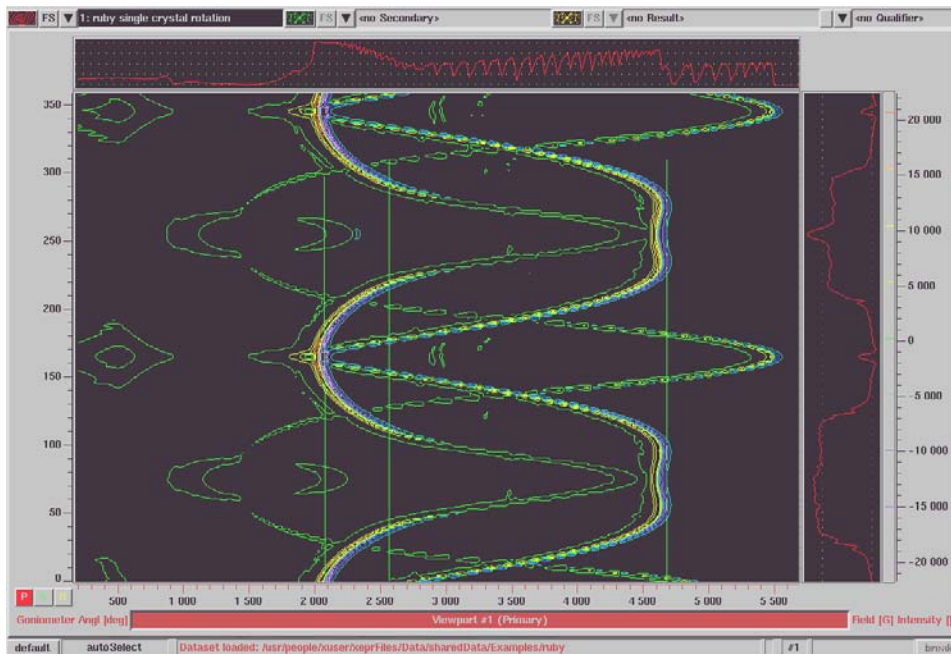

Figure 12-35 Road map of a ruby crystal using the programmable goniometer.
- 7. **Example.** Figure 12-35 shows an example 2D spectra of a ruby crystal. The angle increment is 1 degree. It is displayed as a contour plot.